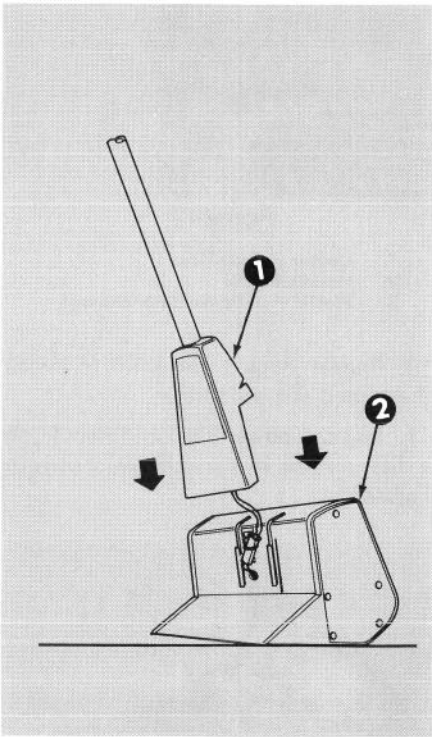

Figure 6
13. Set power head as shown in Figure 6 so that assembled handle may be inserted and pushed down.